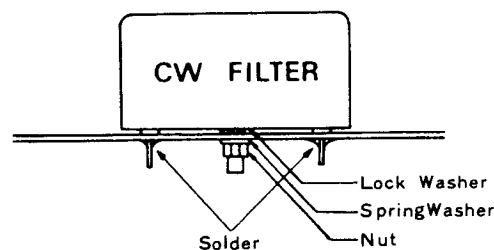

Figure 4
- (3) Refer to Figure 4. and install the jumper wire shown, between the AUX terminal and the terminal of the "BAND" column in Table 6, on bandswitch wafer S2D. Note that this is a "double" wafer; S2C is the side facing the front of the transceiver, while S2D is the rear face of this wafer.
- (4) Normally, no change in the tank coil tap will be required, as inspection of Table 6 will verify. However, if harmonics or other non-satisfactory transmitter performance characteristics result, use linear interpolation of the values in Table 6, "Tank Coil Tap" column. Note that this will affect the performance in the original amateur band, so beware.